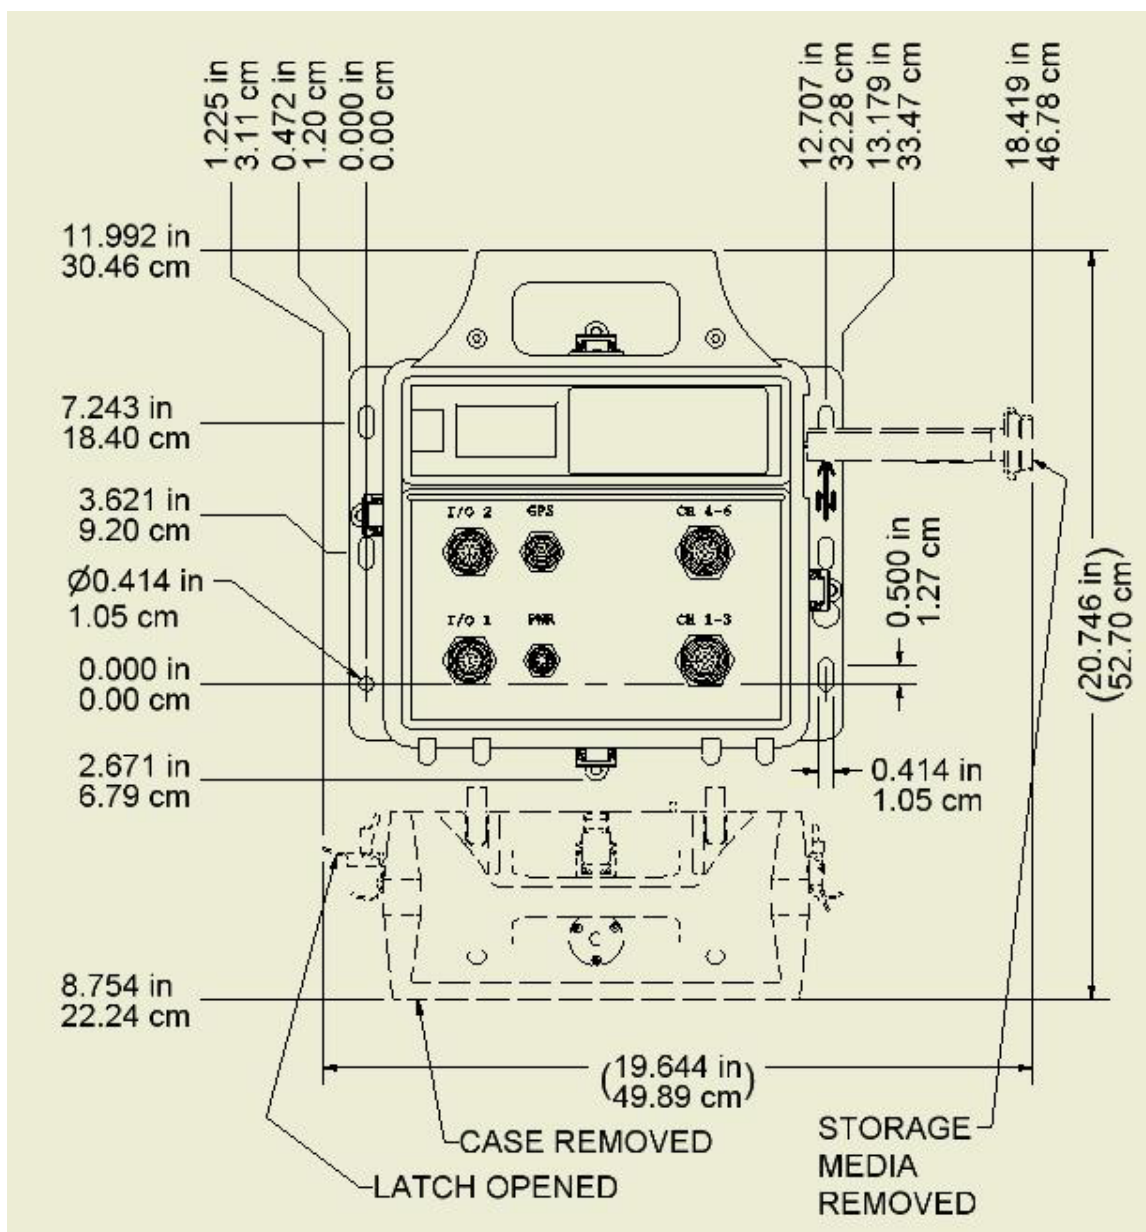
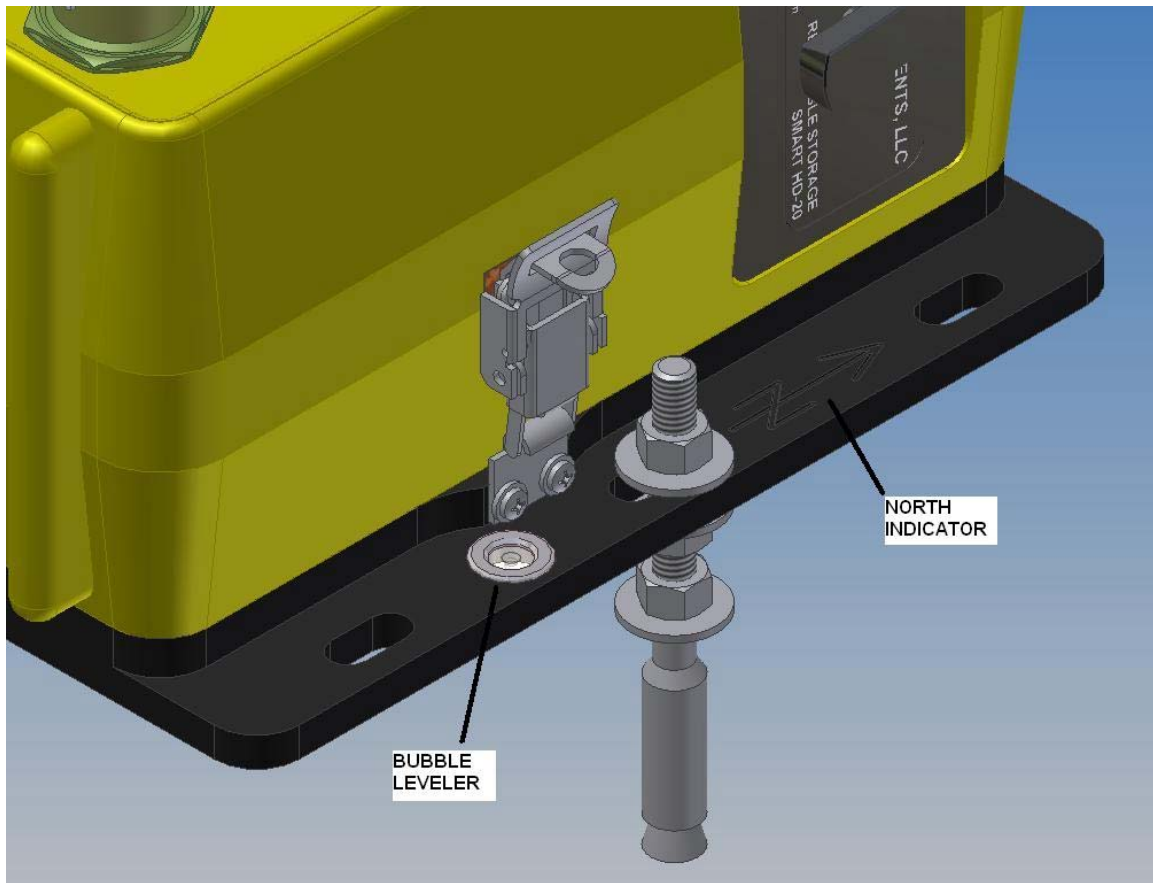
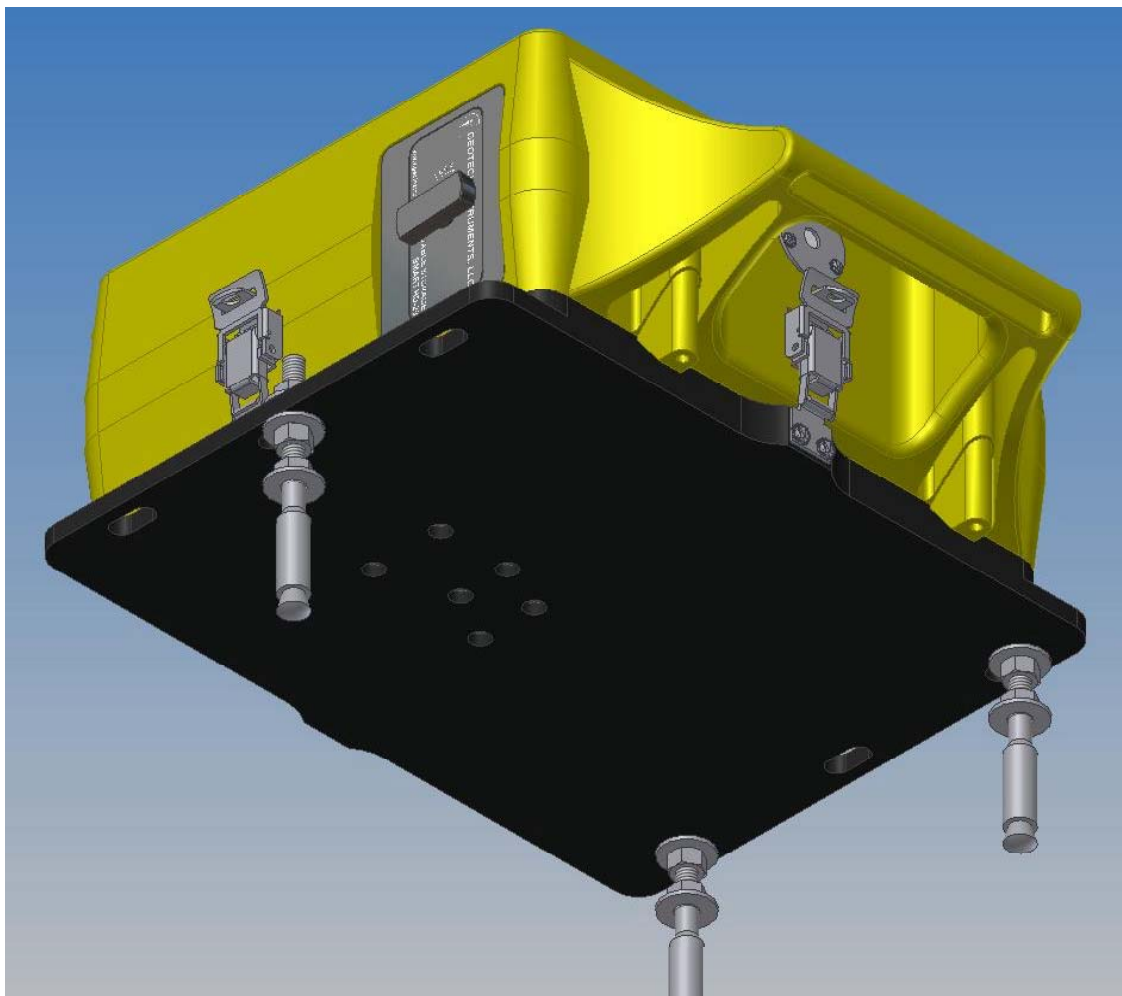

Figure 3-2. SMART-24A[®] Instrument Mounting Points (Top View)
Figure 3-3. SMART-24A[®] North Direction and Bubble Level Indicators
Figure 3-4. SMART-24A[®] Triangular Mounting Point Pattern with Concrete Anchors
The base plate of the SMART-24A[®] provides mounting points as well as leveling and orientation aids. Figure 3-2 shows mounting hole locations and dimensions for this unit. It also shows the recommended clearance area around the unit for case removal and removable drive access during field maintenance. The mounting surface should be smooth and level.
Using the dimensions shown in Figure 3-2 or using the Smart-24A[®] base as a template; (1) align the instrument in the North direction (refer to Figure 3-3) and (2) locate three holes in a triangular pattern for concrete anchor installation (Figure 3-4).
Drill three 3/8-inch diameter holes to a minimum of 1 3/4 inch depth for anchor installation. Secure each anchor with one washer, and one nut. Tighten the nut sufficiently to engage the anchor against the concrete. Install another nut, then washer on each of the three anchors. Place the Smart-24A[®] flush to the 3 washers on each anchor. Raise or lower each corner of the Smart-24A[®] with the nuts just beneath the base plate to level the unit, using the bubble level (Figure 3-3) as a guide. Secure the Smart-24A[®] at each anchor with a washer and nut on the top side of the base plate as shown Figures 3-3 and 3-4.